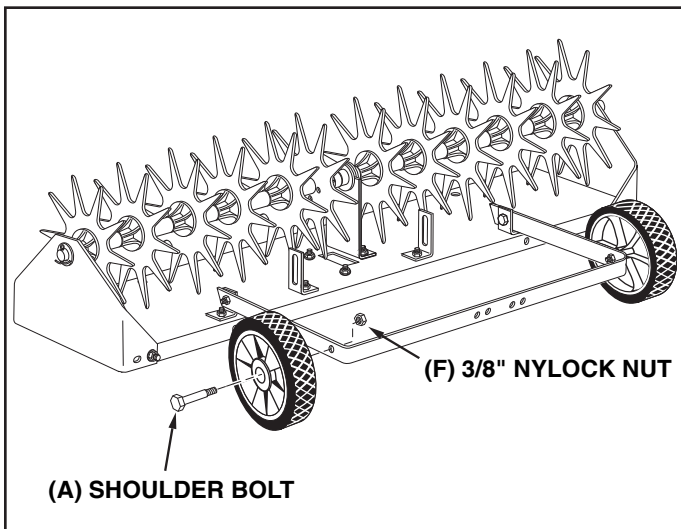

FIGURE 9
16. Assemble the wheels to the axle bracket using a shoulder bolt (A) and a 3/8" nylock nut (F) for each wheel. **Tighten**. See figure 9.